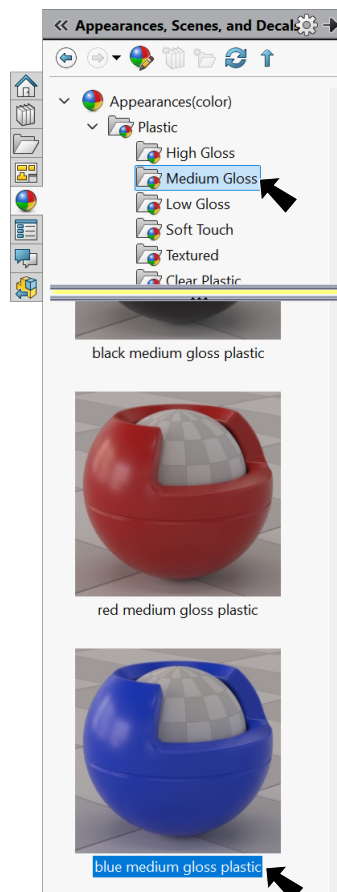

Fig. 20
Step 2. In the Appearances Task pane, expand **Plastic**, click **Medium Gloss** and in the lower pane select **blue medium gloss plastic**, Fig. 20.